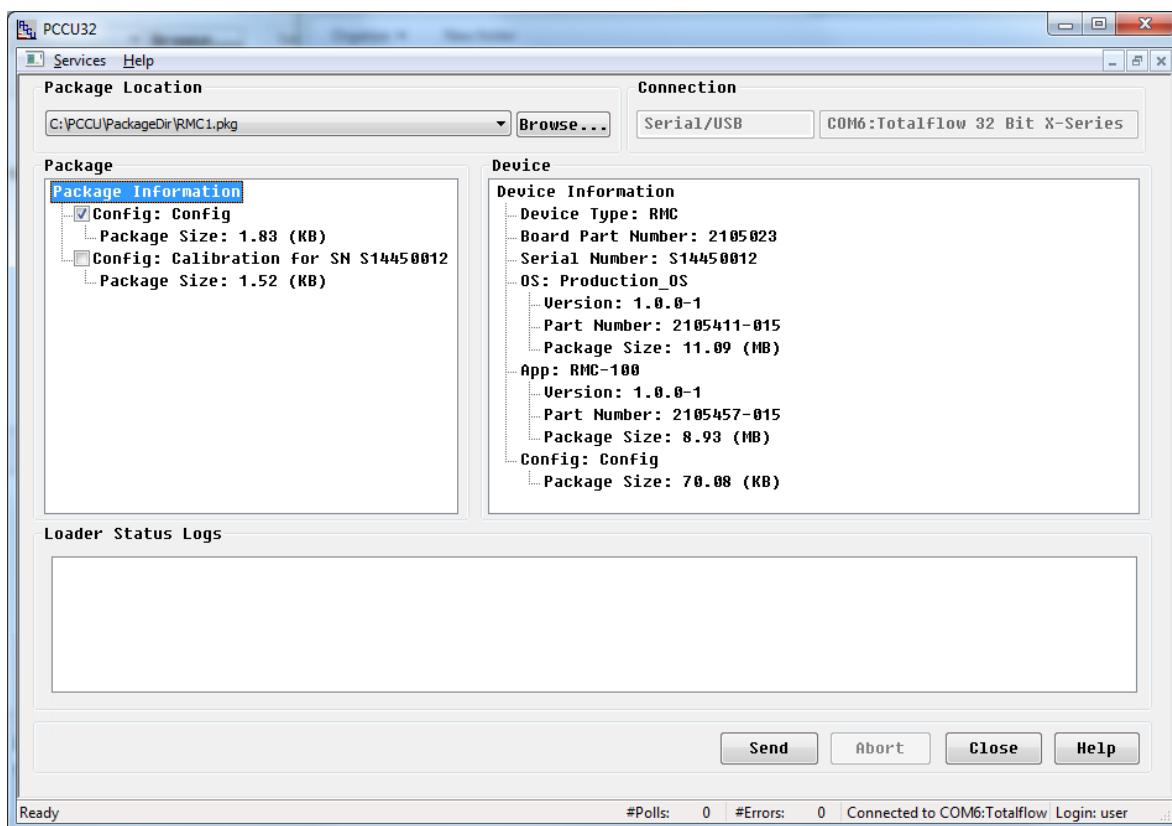

Figure 78: Using configuration file from another RMC
6. Locate and select the configuration file package and click **Open**. The selected package details display in the Package field(Figure 78).